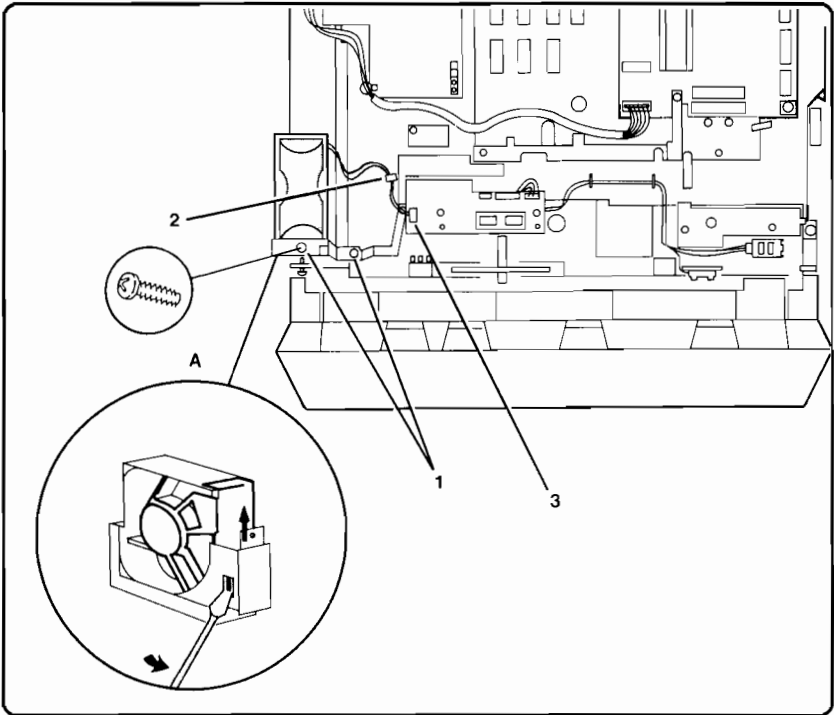

Figure 6-31. Fan Removal
2. Remove the screws (2) securing the Fan Clamping Bracket (see Figure 6-31, callout 1).
3. Cut the tie-wrap securing the Fan Cable (see Figure 6-31, callout 2).
4. Unplug the Fan Cable connector J701 from the Density Adjustment PCA (see Figure 6-31, callout 3).
5. Unlatch the retainer securing the Fan Clamping Bracket and remove the bracket (see Figure 6-31, detail A).